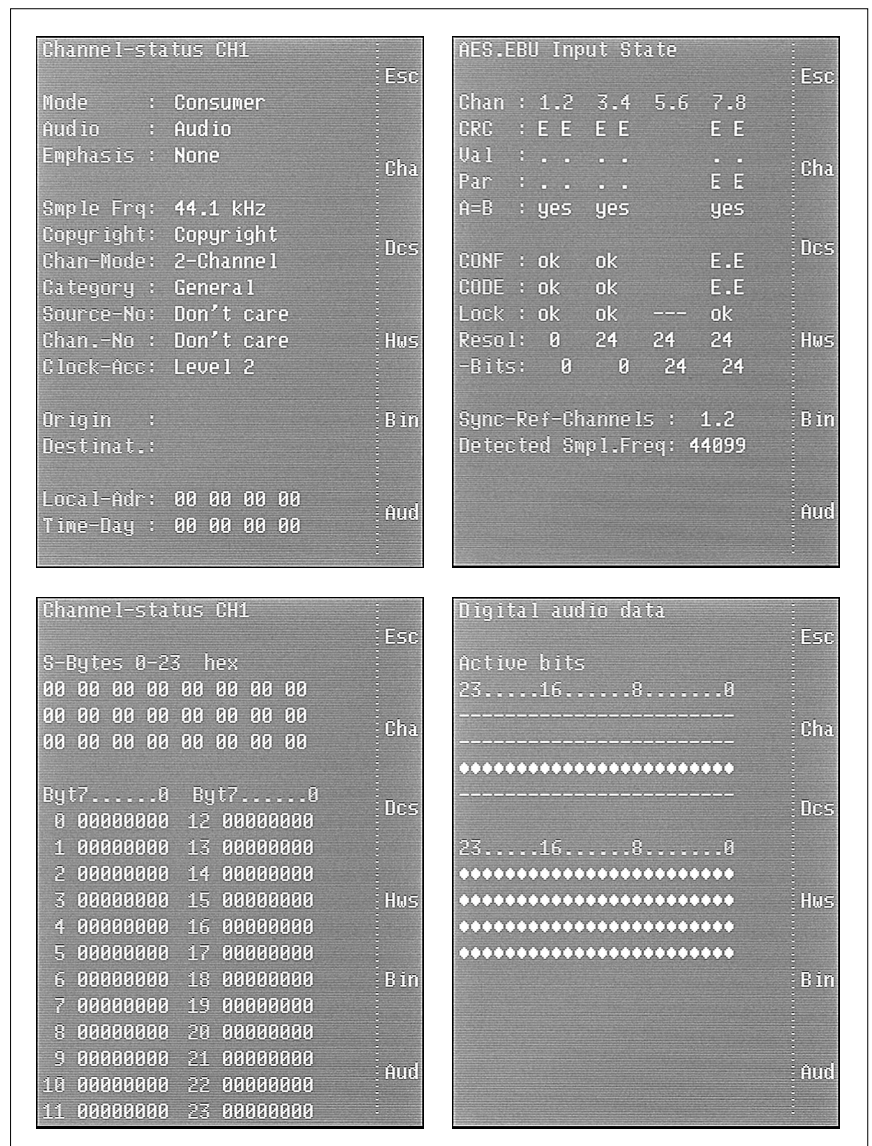

Fig. E 4-14: The different modes of the AES/EBU Status display
- **Dcs** (see Fig. E 4-14, above left)
- **Hws** (see Fig. E 4-14, above right)
- **Bin** (see Fig. E 4-14, below left)
- **Aud** (see Fig. E 4-14, below right)
Status information displays see Fig. E 4-14